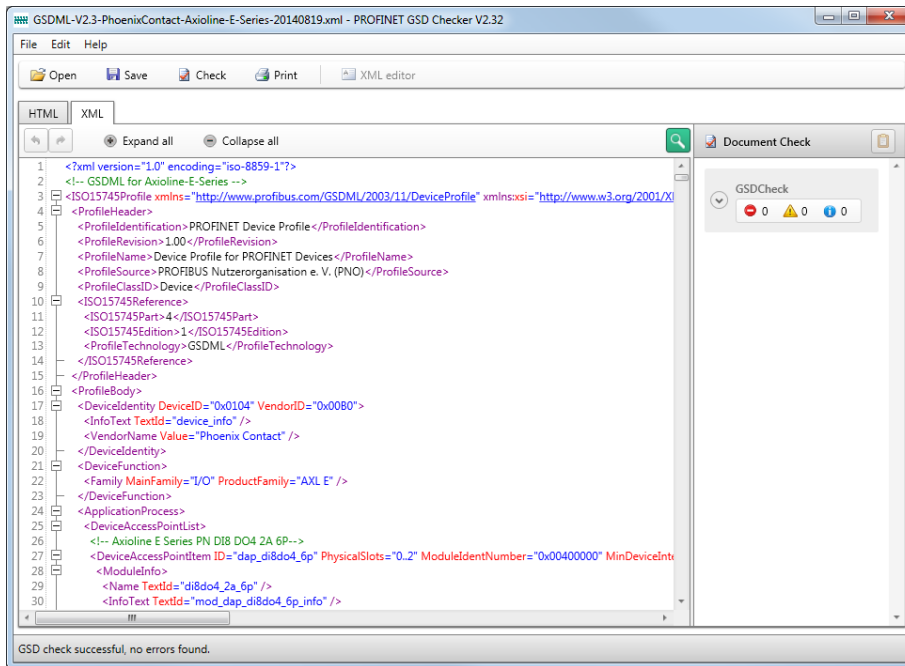

Figure 1-5: XML representation in the GSD checker
- Validation of a GSD against the schema files and reviewing the rules, which go beyond the schema and are documented in the GSDML specification (see Figure 1-5).